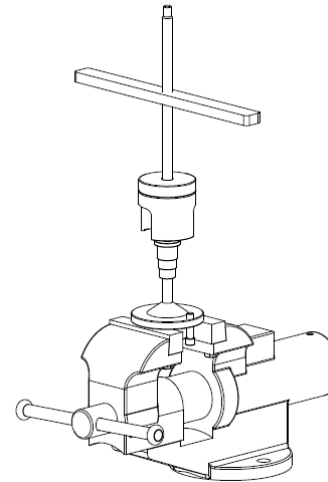

Figure 16
- Using a vice, mount the disassembly tool as shown in figure 16.